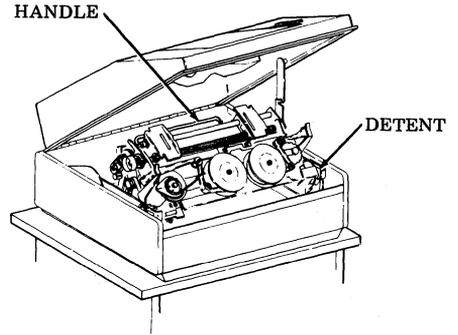

Fig. 6
- (d) Insert screwdriver in right track and pry detent up (Fig. 6).
- (e) Pull printer forward by grasping handle at top (Fig. 6), and sliding off mounting tracks.